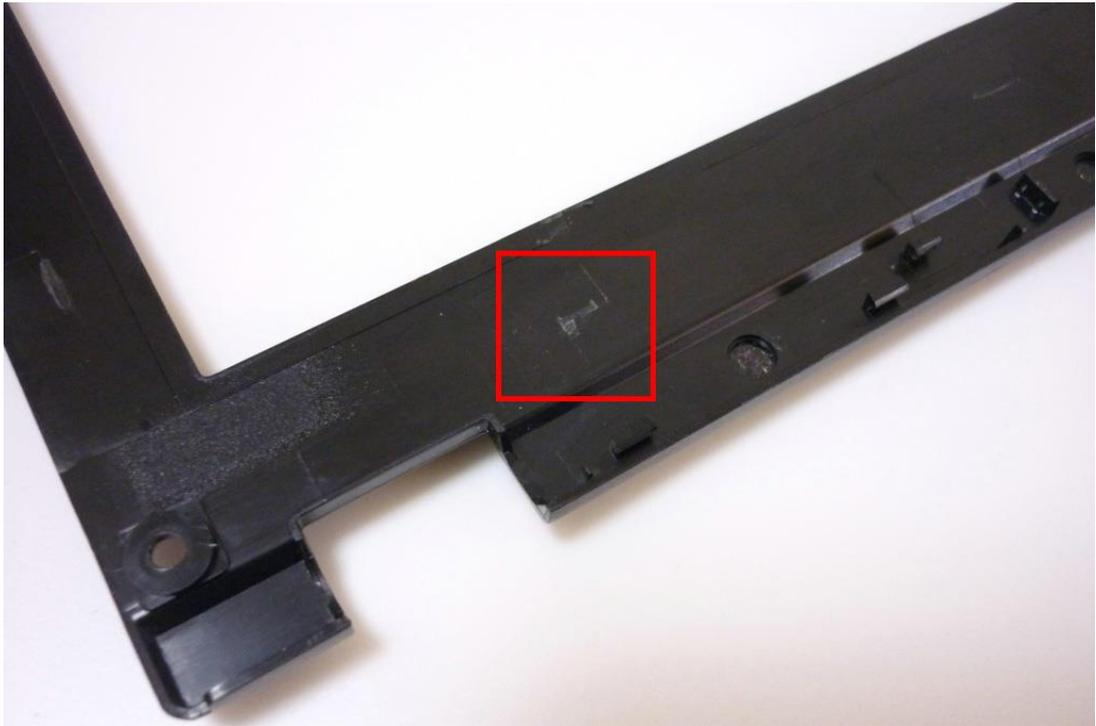

Figure 18. Right inner LCD bezel clip is removed (the left one looks similar)
5. Remove two inner clips on the LCD bezel (see figure 18);